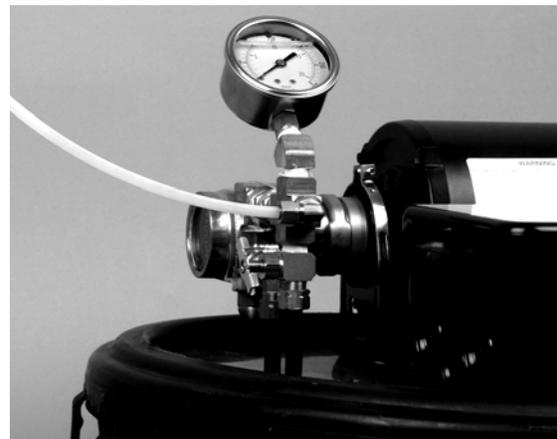

Figure 3 – Pressure Gauge Mounted Into Brass Cross Assembly
17. After all the spray nozzles have been installed, run one end of the tubing back to the drum and insert it into the male elbow of the brass cross assembly (figure 3). Tighten nut snug to a ¼ turn with wrench. Leave slack in line to allow easy shifting of lid to add insecticide.